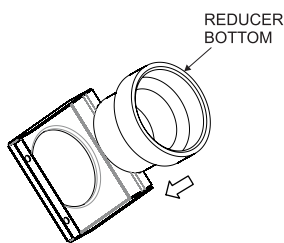
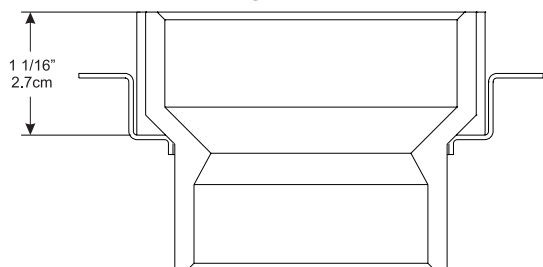

Figure 7
Figure 8
3. Insert the reducer into the vent cover plate as shown in **Figure 7.** The distance between the bottom of the reducer and the interior of the vent cover plate is 1-1/16 inch. **See Figure 8.**